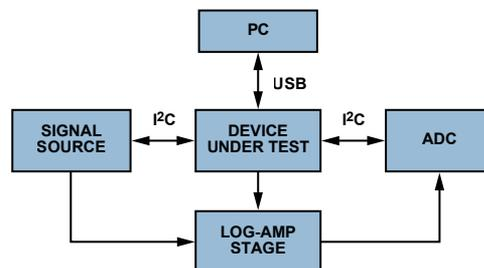

Figure 4. Block diagram of new test system.
- A.** Use a wideband *direct digital synthesizer* (DDS) IC, such as the AD5932,¹ to replace the function generator. This DDS provides your design with excellent frequency range and a high-quality sinusoidal output. Gain measurement becomes a simple task with the application of a pair of logarithmic amplifier ICs, such as the AD8307,² and a difference amplifier. And the final critical piece of the acquisition system is an analog-to-digital converter IC to replace the digital oscilloscope. Using a multi-input ADC, such as the AD7992³ or AD7994,⁴ will lower the total cost of the system by using two available channels to capture the logarithmic amplifiers' result and perform the difference operation in software. The revised arrangement will look like Figure 4.
A. After assembling the circuit building blocks as shown in Figure 4, you can verify (or calibrate) the performance using, first, a unity-gain amplifier, then a gain-of-10 amplifier in place of the device under test.